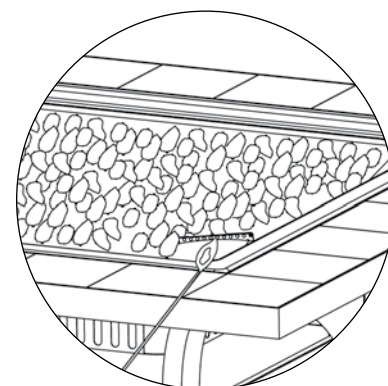

Figure 4
4. Clear small area of lava rock / glass rock away from the igniter cover (Figure 4).